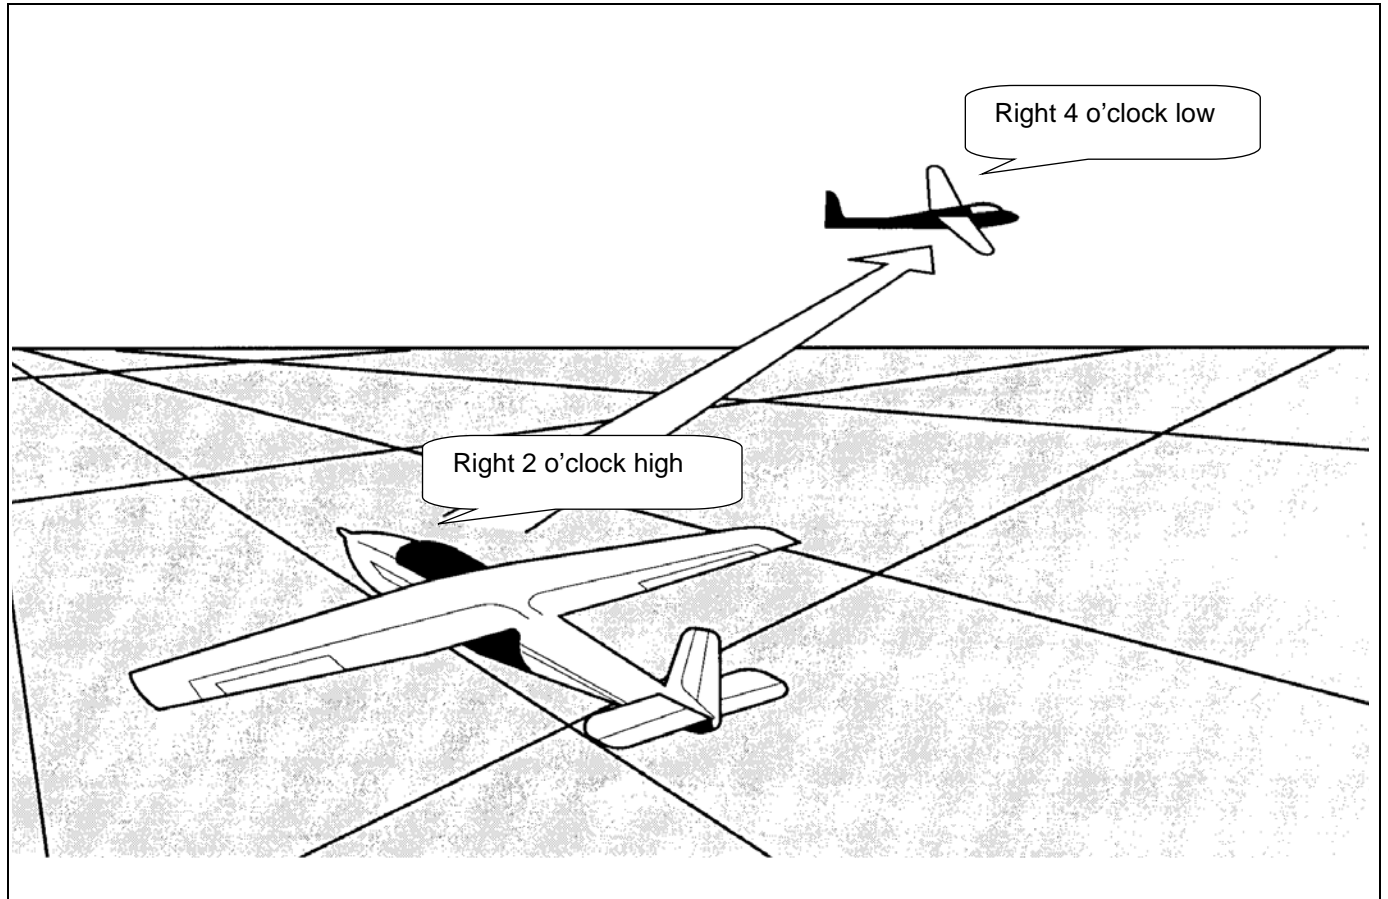

Figure 1-1 Clock-Elevation System
19. Pilots use the clock-elevation system to point out traffic. Examples of aircraft being reported at "2 o'clock high" and "4 o'clock low" is shown in Figure 1-1.